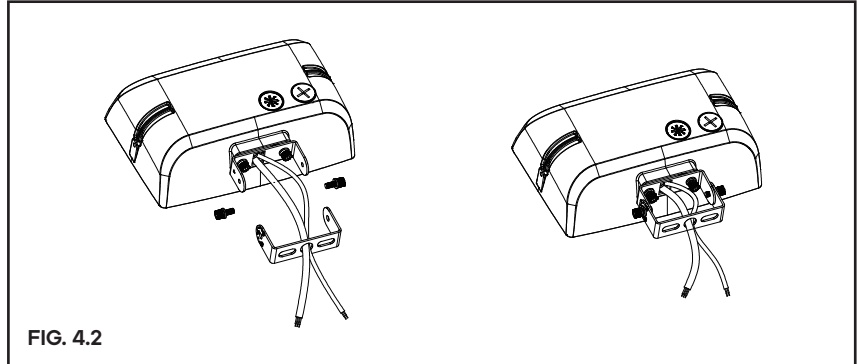

FIG. 4.2
Step 2: Tighten the brackets and screws. (Figure 4.2)